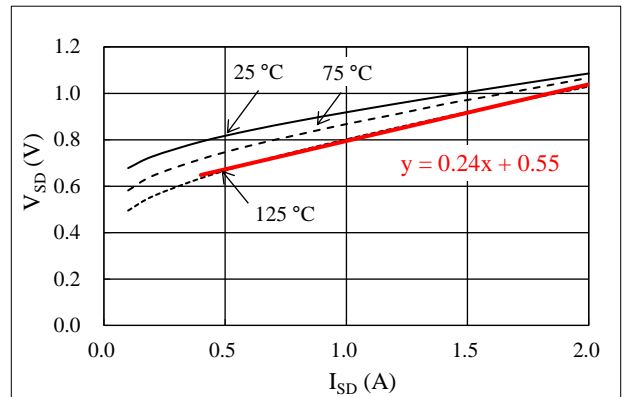

Figure 14-3. Linear Approximate Equation of  $V_{SD}$  vs.  $I_{SD}$
Steady-state loss in the body diode of a power MOSFET can be computed by using the  $V_{SD}$  vs.  $I_{SD}$  curves, listed in Section 15.3.1. As expressed by the curves in Figure 14-3, a linear approximation at a range the  $I_{SD}$  is actually used is obtained by:  $V_{SD} = \alpha \times I_{SD} + \beta$ . The values gained by the above calculation are then applied as parameters in Equation (9), below. Hence, the equation to obtain the body diode steady-state loss,  $P_{SD}$ , is: